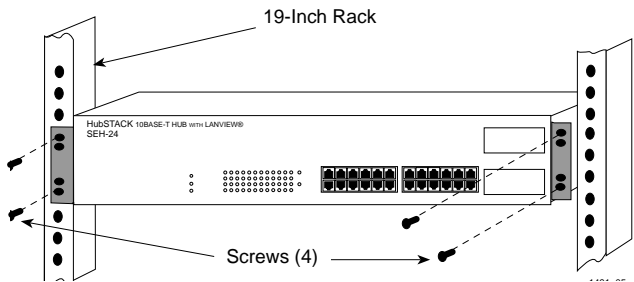

Figure 3-5. Installing the SEH in the Rack
3. With the mounting brackets installed, position the SEH between the vertical frame members of the 19-inch rack and fasten it securely with mounting screws as shown in Figure 3-5.